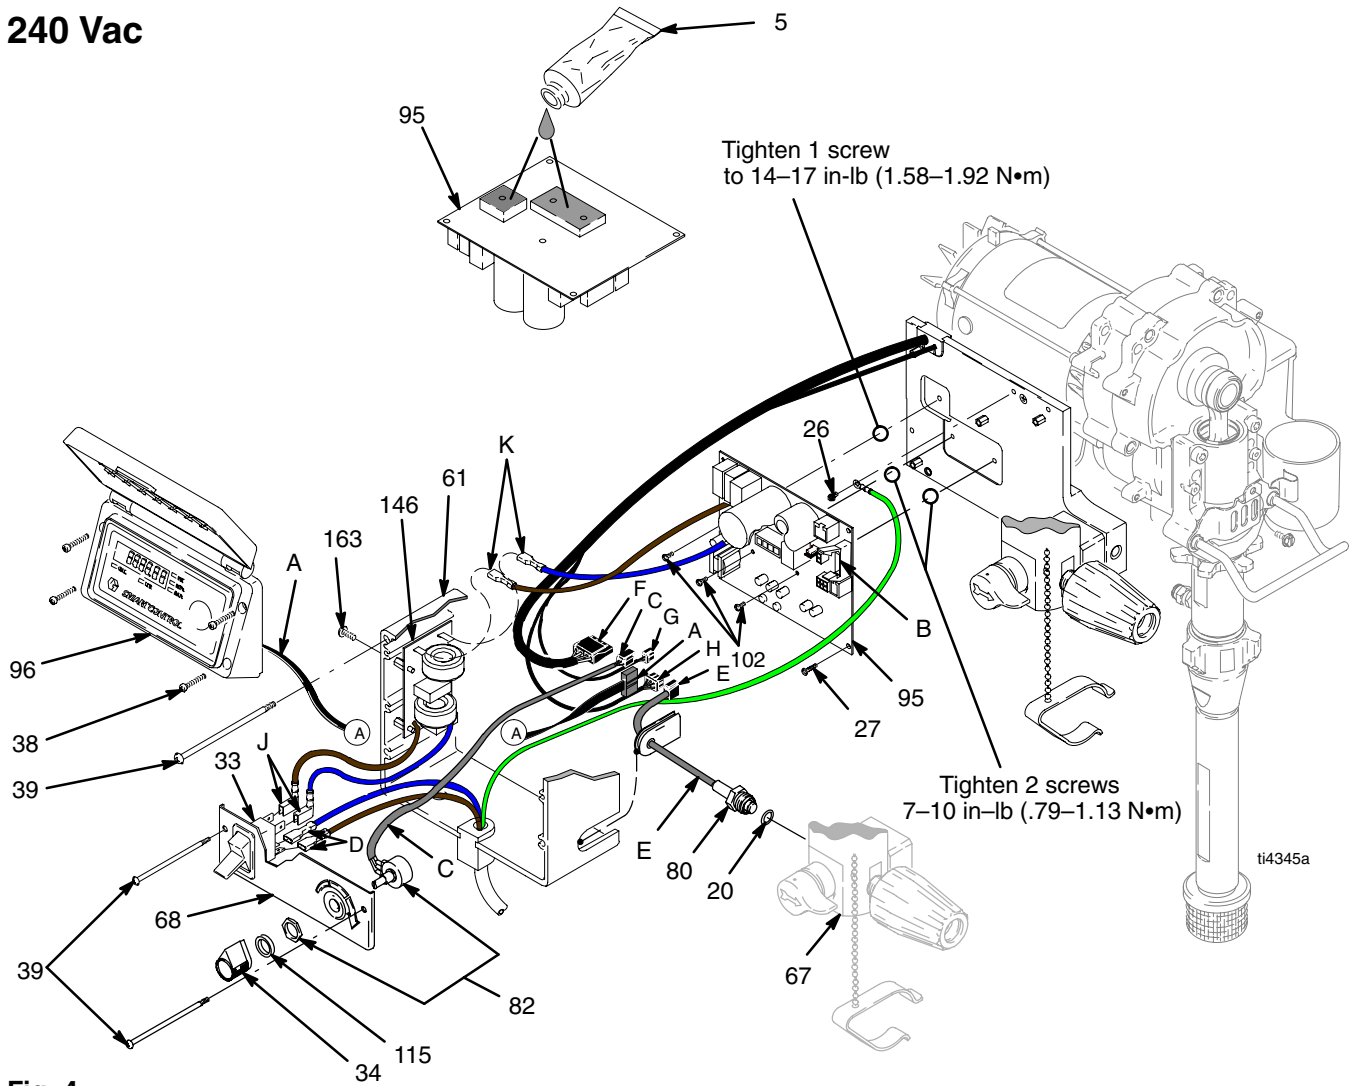

Fig. 4
- Fig. 4. Remove four screws (38) and cover (96).
- Disconnect display connector (A) from motor control board (95).
- Remove bottom two screws (39). Disconnect potentiometer connector (C) from motor control board (95). Disconnect power cord connectors (D) and filter board connectors (J) from ON/OFF switch (33) and remove control panel (68).
- Disconnect motor control board power connectors (K) from filter board (146).
- Remove top two screws (39) and control box (61).
- Disconnect transducer connector (E) from motor control board.
- Remove five screws (27), three screws (102) and motor control board.
- Fig. 4. Apply small amount of thermal compound 110009 (5) to shaded areas on rear of motor control board (95).
- Remove four screws (163) from filter board (146).
- Fig. 4. Install filter board (146) with four screws (163).
- Connect motor control board power connectors (K) to filter board (146).
- Connect filter board power connectors (J) to top two terminals of ON/OFF switch (33) and power cord connectors (D) to bottom two terminals of ON/OFF switch.
- Connect potentiometer connector (C) to motor control board (95).
- Install control panel (68) with two screws (39).
- Connect display connector (A) to motor control board (95).
- Install cover (96) with four screws (38).